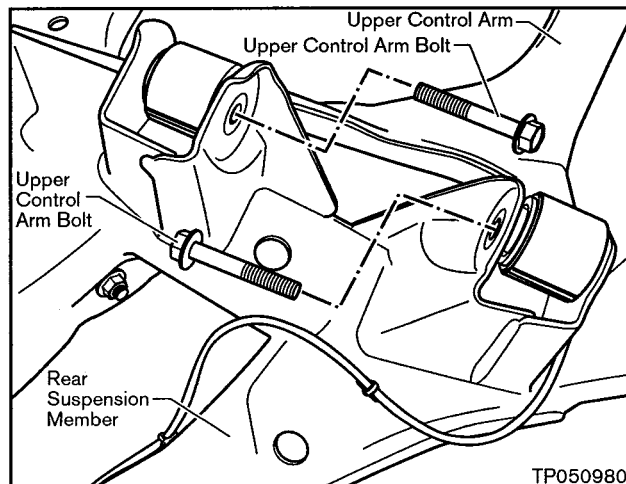

Figure B7
- The upper control arm bolts are installed from inboard to outboard as shown in Figure B7.